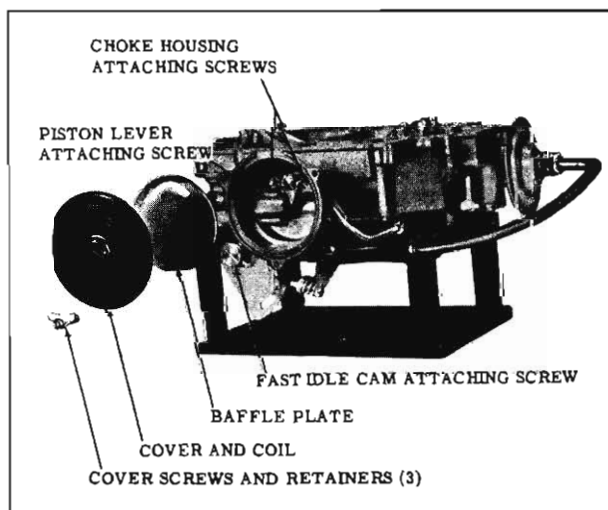

Fig. 4-15 Choke Assembly and Fast Idle Cam
14. Install the choke housing gasket, intermediate choke lever and shaft with linkage, in the choke housing. (Fig. 4-15)